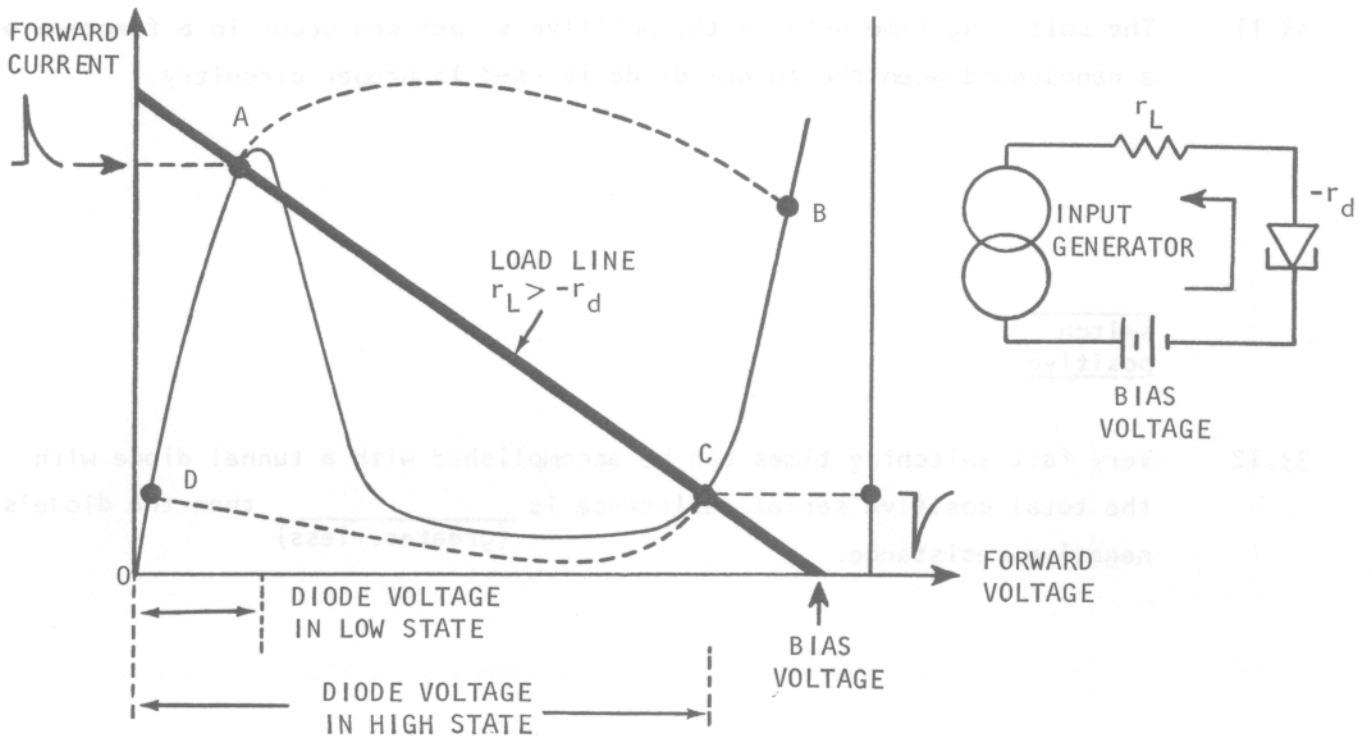
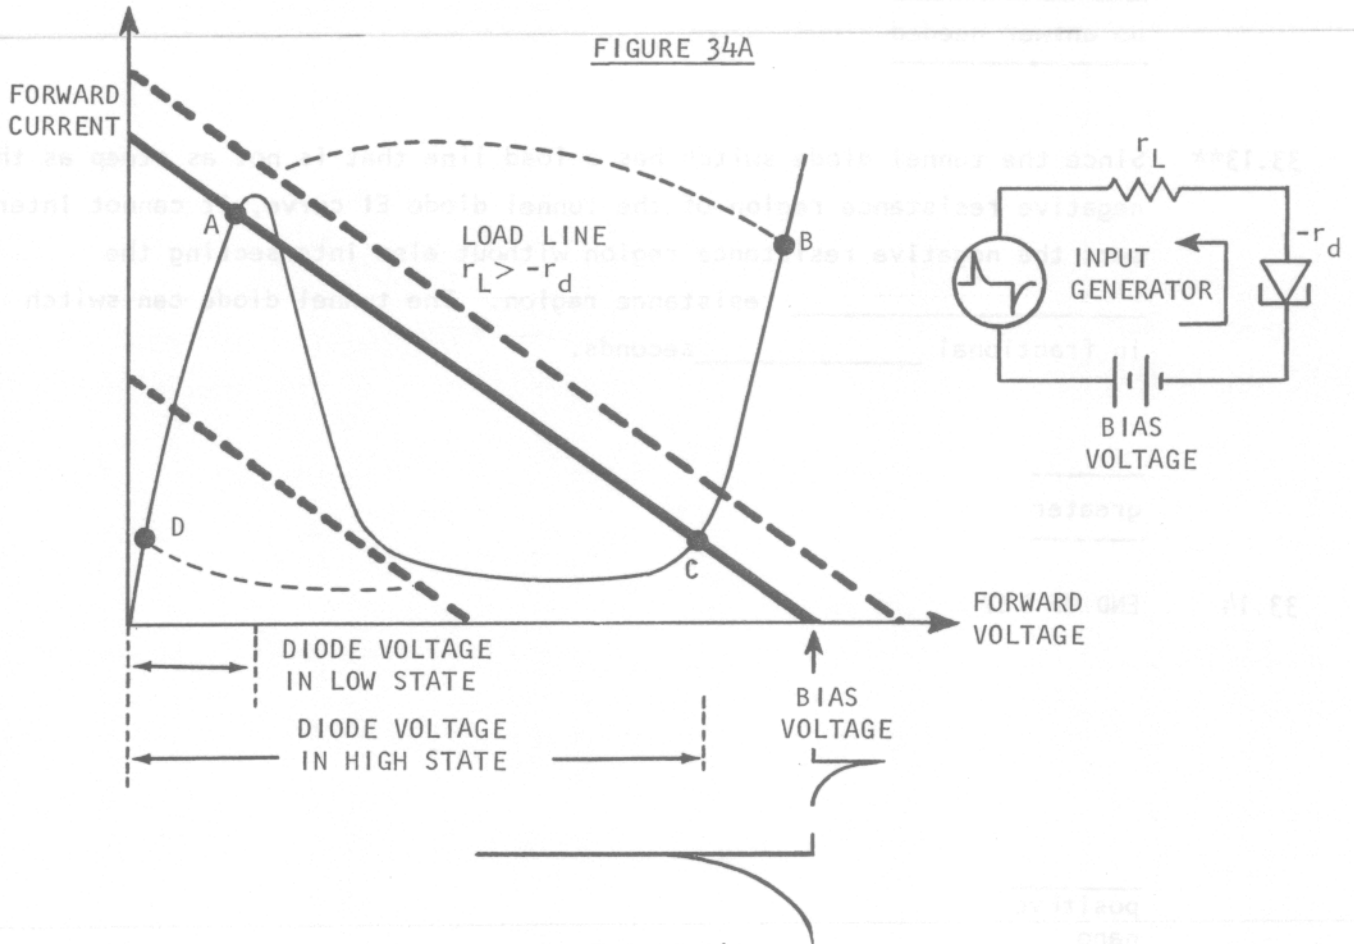

FIGURE 34A
FIGURE 34B
34 The tunnel diode in figure 34A is a _____ driven, _____ - stable switch. Figure 34B is a _____ driven, _____ - stable switch. When the input generator in figure 34A exceeds the _____ of the tunnel diode, it switches to its high state and, when the input generator reduces below _____, the tunnel diode switches to its low state. When the input generator in figure 34B moves the load line past _____ voltage, the tunnel diode switches to its high state and, when the load line is moved below _____ voltage, the tunnel diode switches back to its low state.
34.1 In figure 34A, the load line intersects the tunnel diode curve at # _____ points, and the tunnel diode can rest at points A or C. The series positive resistance is _____ than the diodes negative resistance.